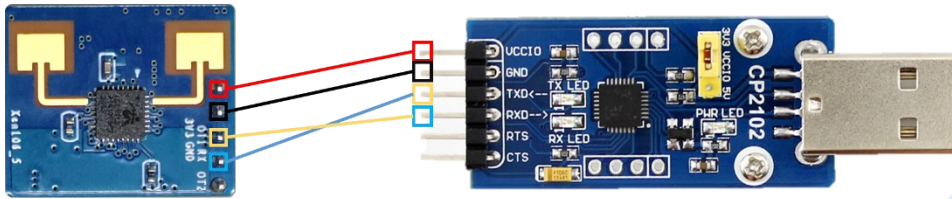

Figure 4-1 Connection of Xen106 and USB serial port tool
Step 1: Connect the host computer and the mmWave sensor through a USB-to-TTL serial port adapter board. The pin connections are shown in Table 4-1 and Figure 4-1.
Step 2: Connect the mmWave sensor and the host computer using a serial port adapter board as shown in Figure 4-1.